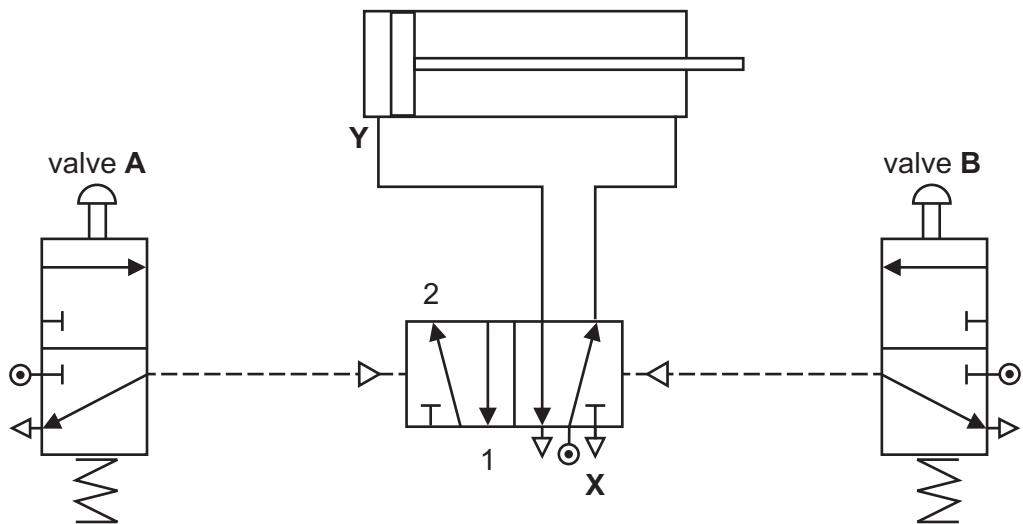

Fig. 6
- 5 Fig. 6 shows a manually operated pneumatic circuit.
- (a) (i) The statements below describe the stages of the outstroke operation of the double acting cylinder circuit in Fig. 6.
- (ii) State the purpose of valve **B** in Fig. 6.
- (iv) Add a label to Fig. 6 to show **one** pilot air control line. [1]